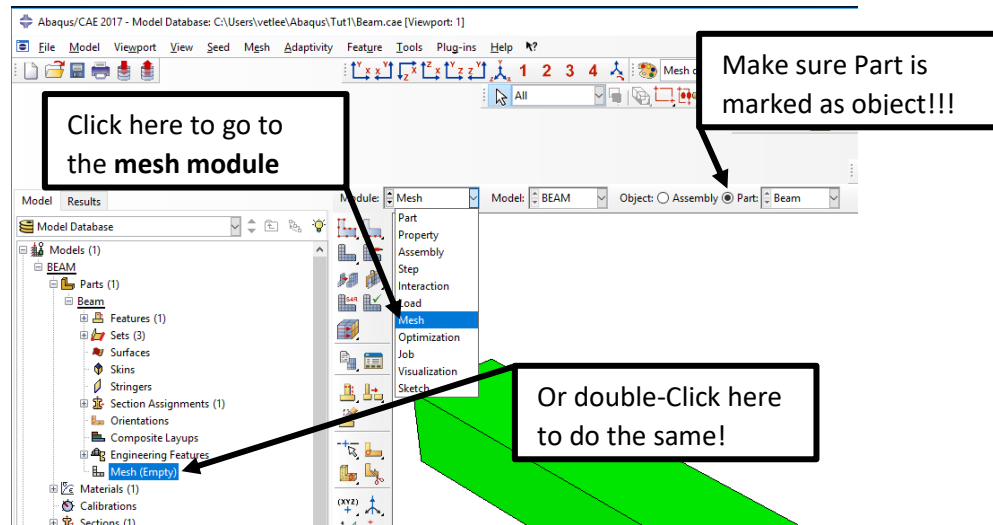

Figure 1-23 – How to access the meshing environment.
1. In the Module drop-down menu, choose **Mesh** to access the meshing environment. You may alternately double-click on **Mesh** in the branch for the part **Beam** in the **Model Tree**. See Figure 1-23.